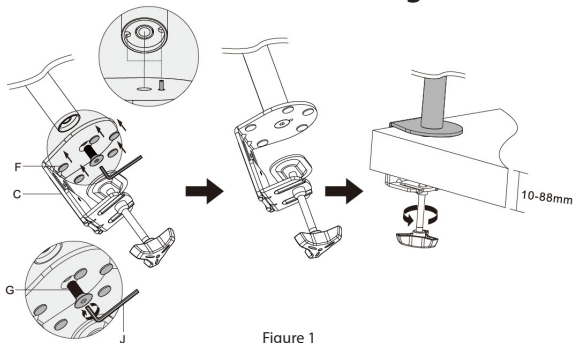

Figure 1
1. Affix the **Rubber Pads (F)** to the **Desk Clamp (C)**. (Figure 1)
2. Align the hole, located in the **Desk Clamp (C)**, with the hole in one end of the **Pole (B)**. Ensure the **Desk Clamp Peg** is aligned with the corresponding hole, located in the **Pole (B)**.
3. Insert the **Pole Screw (G)** through the hole, located in the top of the **Desk Clamp (C)**, and into the **Pole (B)** and tighten, using the **6 mm Hex Key (J)**, to complete the **Desk Pole Assembly**.